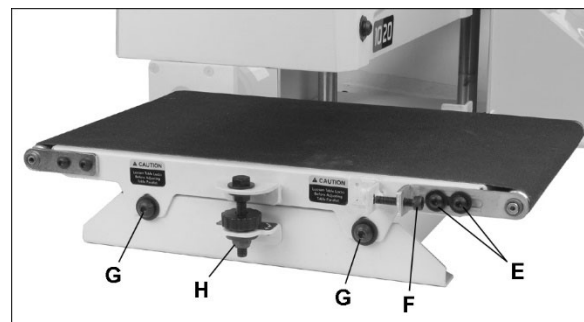

Figure 9-3
3. Loosen two screws (E, Figure 9-3) and turn take-up screws (F, Figure 9-3) on both sides of conveyor to relieve belt tension, and slide the driven roller fully inward.
4. Loosen two table locking screws (G, Figure 9-3).
5. Remove lock nut (G, Figure 9-3).